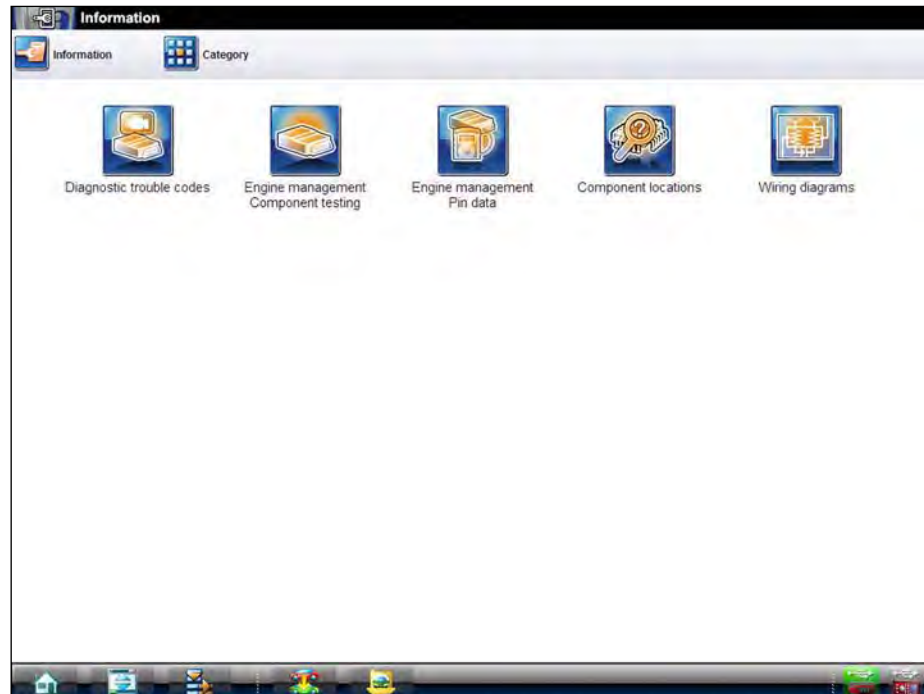

Figure 8-3 Sample information main menu
- With an active vehicle, the Information main menu, which allows you to select different types of tests, opens (Figure 8-3).
Anytime a Category icon appears in the upper toolbar portion of the screen while navigating through Information, selecting it returns you to the Information home page (Figure 8-3).